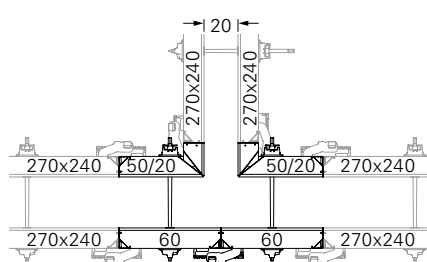

Fig. B4.03
- Wall thickness 20: Fig. B4.03